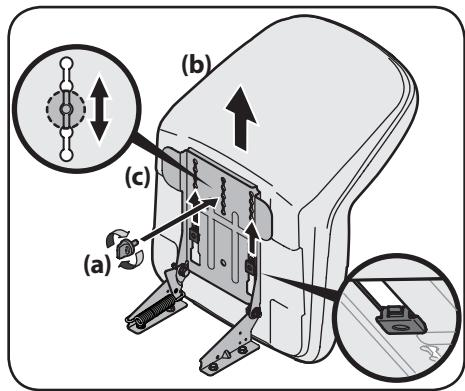

Figure 2-6
- Slide the seat (b) rearward in the seat pivot bracket (c), lining up the center rear slot in the seat pivot bracket (c) with the remaining hole in the seat (b) base. See Figure 2-6.
- NOTE:** Be certain the two seat tabs engage the seat pivot bracket as shown in the bottom right inset of Figure 2-6.
- Select the desired position for the seat (b), and secure with the adjustment knob (a) removed in Step 1. See Figure 2-6.
- To adjust the position of the seat, remove the adjustment knob (a) on the bottom of the seat (b). Slide the seat (b) forward or backward as desired. Reinstall the adjustment knob (a). See Figure 2-6.